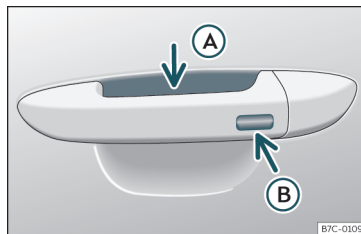

Fig. 119 Driver door lever: sensor surfaces.
- Press and hold the locking sensor surface >>> **Fig. 119**  on the door handle to close the sunroof. If you release the sensor surface, the closing movement stops.